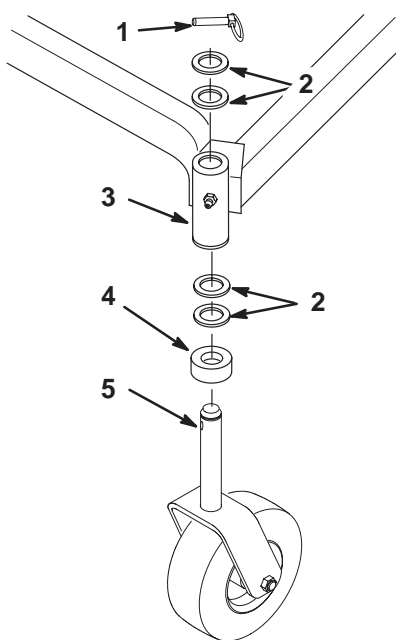

Figure 27
2. Remove the locking pin and thrust washer(s) from the top of the castor wheel fork (Fig. 27).
3. Pull the castor wheel fork out of the mounting tube, leaving the thrust washer(s) and spacer on the bottom of the fork. Remember the location of the thrust washers and spacer on each fork to ensure correct installation, and to maintain a level deck (Fig. 27).